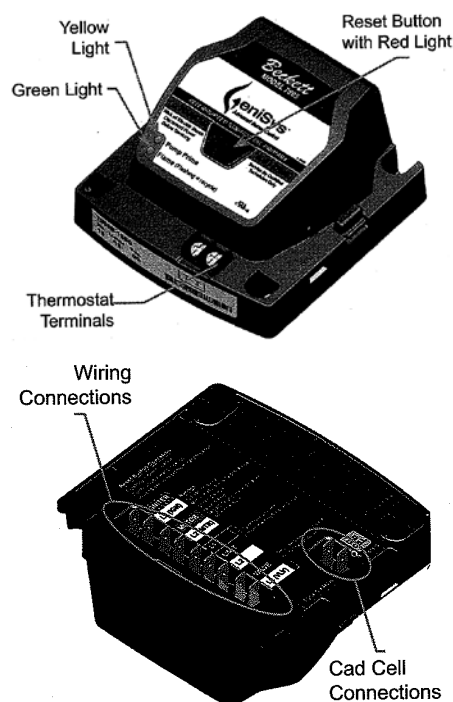

Figure 20: GeniSys 7505 Oil Primary Terminals, LED's and Reset Button
- a. **GeniSys 7505 Control Features**, see Figure 20.